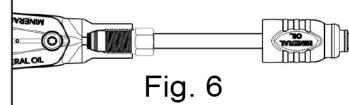

Fig. 6
⑥ Tighten the flare nut into the connection port (Torque 70-90 kgf-cm) (Fig. 6).